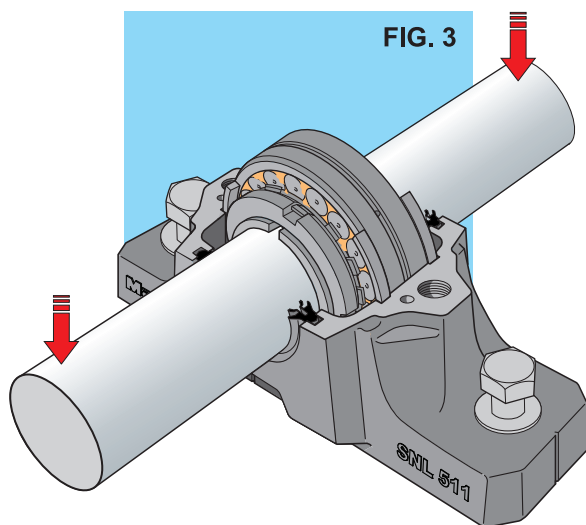

FIG. 3
9. Mount other end of the shaft with similar steps as mentioned above, in second bearing housing. Prior to mounting second bearing on shaft, ensure to mount the driving Component on the shaft at suitable location, positioning the component in between the two housings. FIG 3
11. In case of located bearing option, put locating rings (of suitable size and numbers) in bearing seating area of only the housing near the drive (e.g. motor). FIG 3
11. Put the shaft with the two bearings and V seal & sealing washers in the two housing bases. The metallic seal washer should be inserted in the groove of housing base. FIG 3.
12. In case of located bearing option, put locating rings (of suitable size and numbers) on side of bearing in bearing seating area of housing FIG. 3
8. Place Aluminium alloy half rings of the felt seal, over the O cord in sealing groove of each side of housing base with the felt strip (duly cut to the right length and duly soaked in hot oil for few minutes) in it. FIG 3